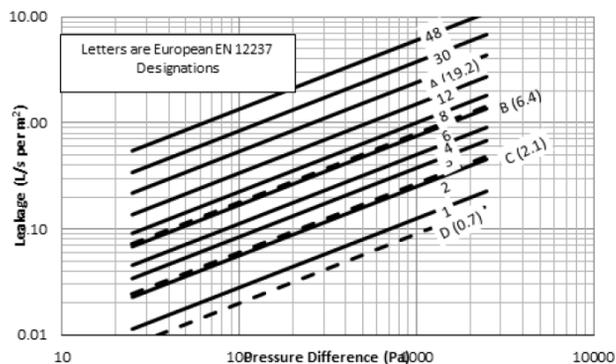

Figure 12-5. Relationship between European air tightness classes (dash lines) and ASHRAE leakage classes (solid lines) (SI units).
Generally, the air tightness classes are applied by European Union (EU) member countries as listed in Table 12-4. For the United States, ASHRAE originally developed "Air Leakage Class ( $C_L$ )" to predict air leakage from round, rectangular, flexible, and fibrous glass duct using data from research conducted in 1985 (RP-308). Today, ASHRAE is using air leakage classes in the same manner as European countries. Figure 12-5 shows the relationship of European air tightness classes and leakage classes. The equivalency between EU and ASHRAE leakage classes is noted on these figures; namely, A ( $C_L=19$ ), B ( $C_L=6.4$ ), C ( $C_L=2.1$ ), and D ( $C_L=0.7$ ).